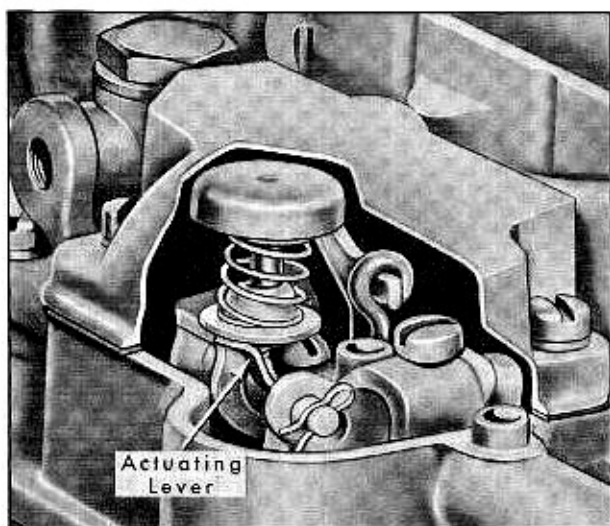

Fig. 12-34 Atmospheric Idle Vent Adjustment
3. If the vent valve opening is less than $1/32$ inch, it will be necessary to remove the dust cover with valve and bend the actuating arm, Fig. 12-34, up slightly and repeat above operations after installing dust cover.